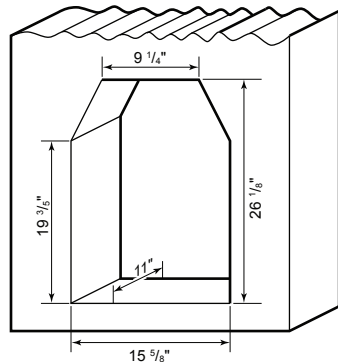
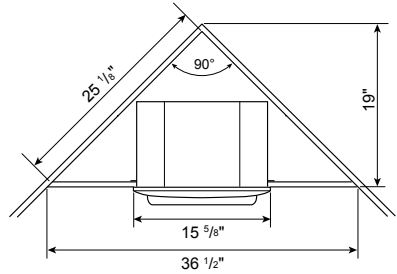

Figure 9 - Rough Opening for Wall Installation
Figure 10 - Rough Opening for Corner Installation
1. Frame in rough opening. Use dimensions shown in Figure 9 for the rough opening. If installing in a corner, use dimensions shown in Figure 10 (page 12) for the rough opening. The height is 19", which is the same as the wall opening above.